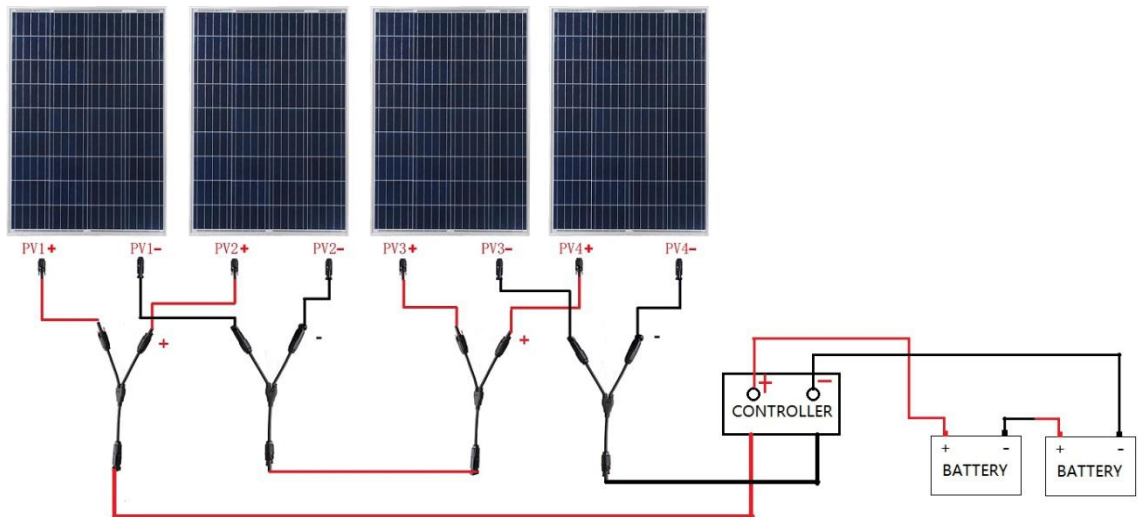

Figure7.3.3
Step 6: Connect the extension cable to the Controller (terminal marked as solar). Figure 7.3.3